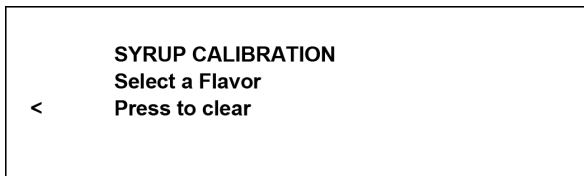

Figure-45
3. Press the Calibrate symbol  to enter the Syrup Calibration mode. (See Figure-45.)